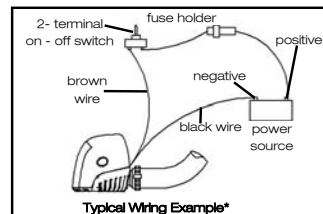

Fig. 3
Ensure all wire connections are at the highest level above water. Use marine grade wire connectors only and 16 SWG tinned copper wire. Waterproof all connections with suitable materials. (see figure 3).
- Be sure electrical connections and fuse are waterproof and have not loosened (see figure 3).